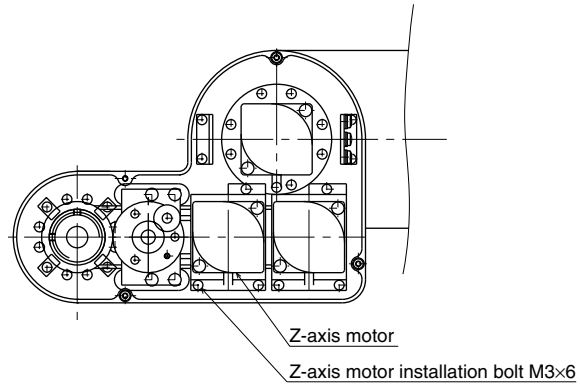

Fig. 4-1 R6YXCH250, R6YXCH350, R6YXCH400
- 8) Remove the bolts securing the Z-axis motor (See Figs. 4-1 to 4-3) and then remove the Z-axis motor.